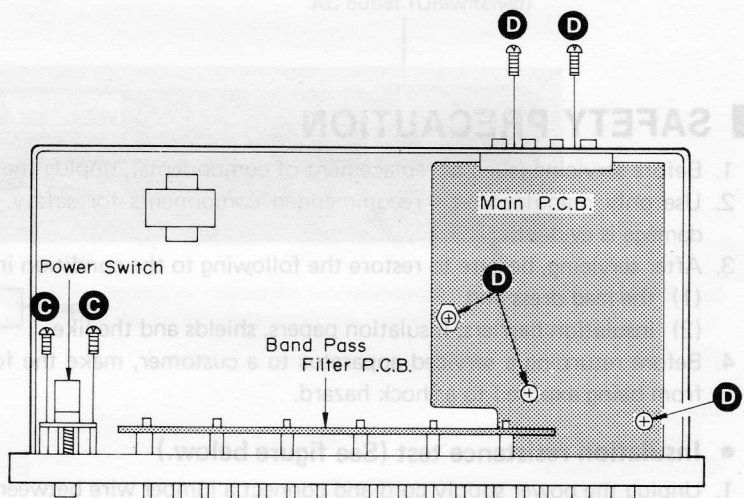

Fig. 2
4. Remove the setscrews [Fig. 2: **C**] of the power switch.
2. Remove the 5 screws [Fig. 2: **D**] from the chassis.